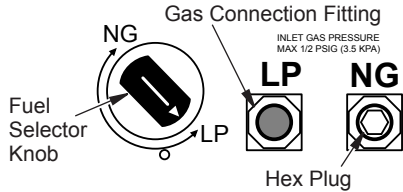

Figure 6 - Settings for Propane/LP Gas Selection
2. For propane gas, press in knob using a flat screwdriver with a blade the thickness of a quarter and turn knob counterclockwise until the knob locks into the LP position (see Figure 6). Fuel selection device must be locked in the LP position. Do not operate heater between locked positions.
4. Remove hex plug (with wrench provided) from propane/LP gas inlet of regulator (see Figure 6). Install hex plug into NG inlet of regulator. Install gas line into LP inlet of regulator. Use thread sealant to assure there are no leaks.